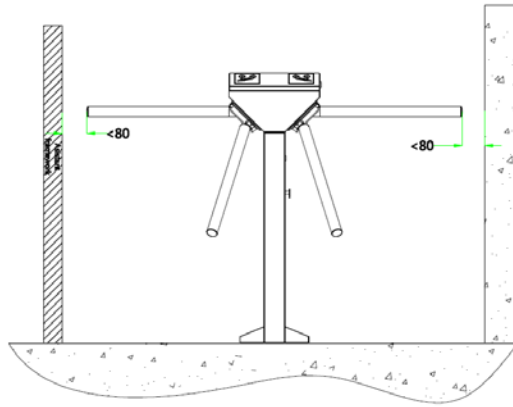

Figure 3-1
You are suggested to install an assistant framework or fence to form a passageway, as shown in Figure 3-1.
1. The space at the end of the arm shall not be greater than 80 mm (see Figure 3-1).